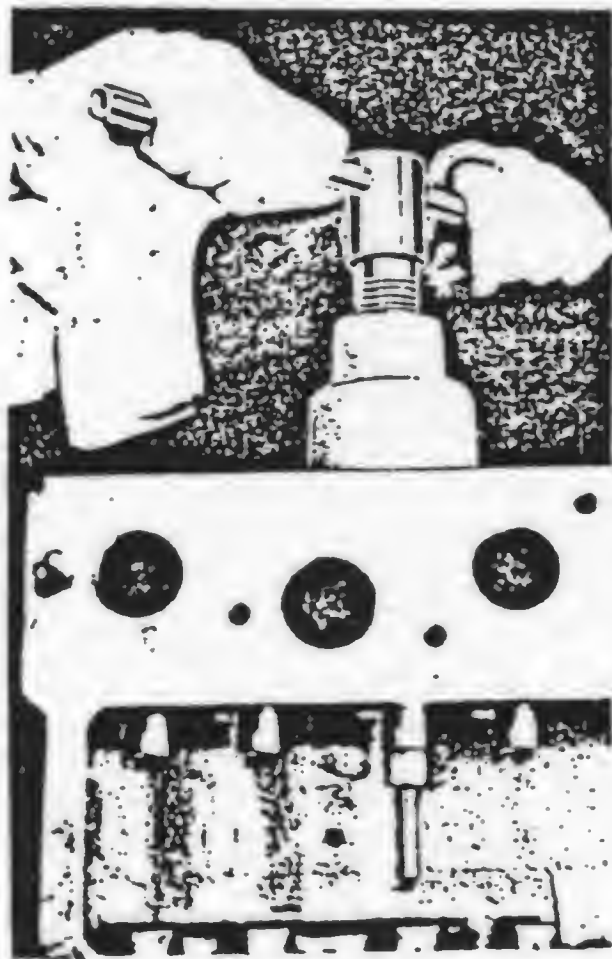

FIG. 19 REMOVING VALVE GUIDES
(1) When removing the valve guides use a valve guide puller to prevent damage to cylinder block. See (Fig. 19). If a regular puller is not available, a suitable tool can be made from a 2" pipe, 6' long and a  $\frac{3}{8}$ " bolt 10' to 12' long with a long threaded end, a small hexagon nut which will pass through the hole in the cylinder block and a 2" washer with a  $\frac{3}{8}$ " hole in it.